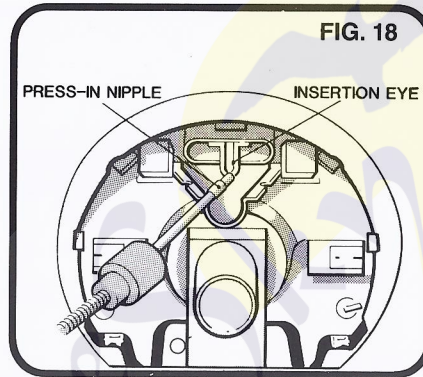

FIG. 18
- (b) Insert the press-in nipple of an AL-KO Bowden cable into the insertion eye. Pull back the outer sheath of the cable so that the nipple engages correctly with the eye (Fig. 18).